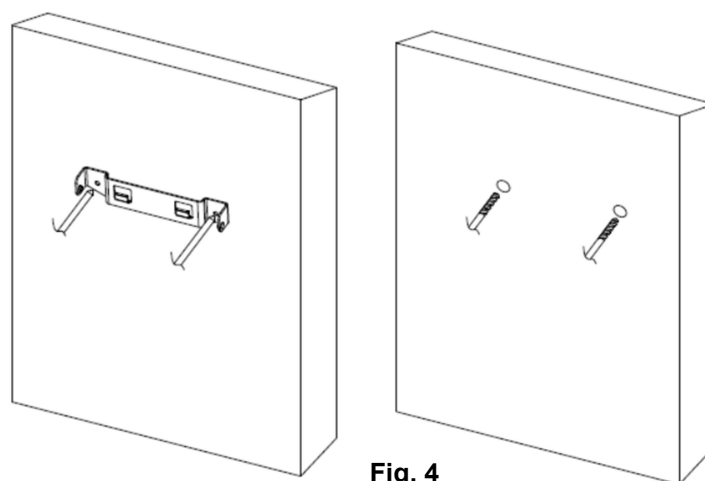

Fig. 4
- Use mounting bracket as a template to mark the screw hole positions on the wall. (Fig.4)